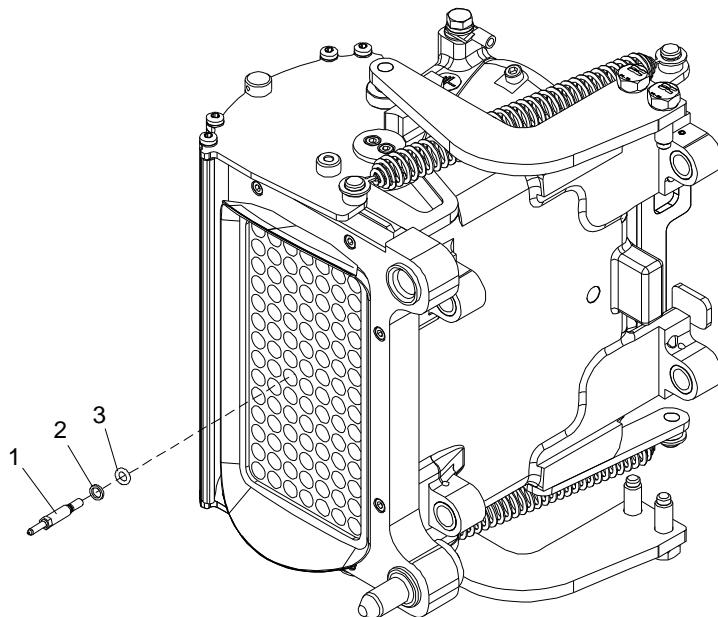

Figure 7-13: Replacement of Electrical Coupler Contacts
3. Fit the shaft 1007270 and socket 1007272 to the torque wrench 1007269 and remove the contact (1) including O-ring (3) and washer (2). See Figure 7-13.
2. Mount new washer (2) and O-ring (3) on the contact (1). Fit the shaft 1007270 and socket 1007272 to the torque wrench 1007269 and screw the contact into connection screw. Tighten the contacts to  $2.8 \pm 0.6$  Nm (2.06 ft-lbs +/- 0.44 ft-lbs). See Figure 7-13.